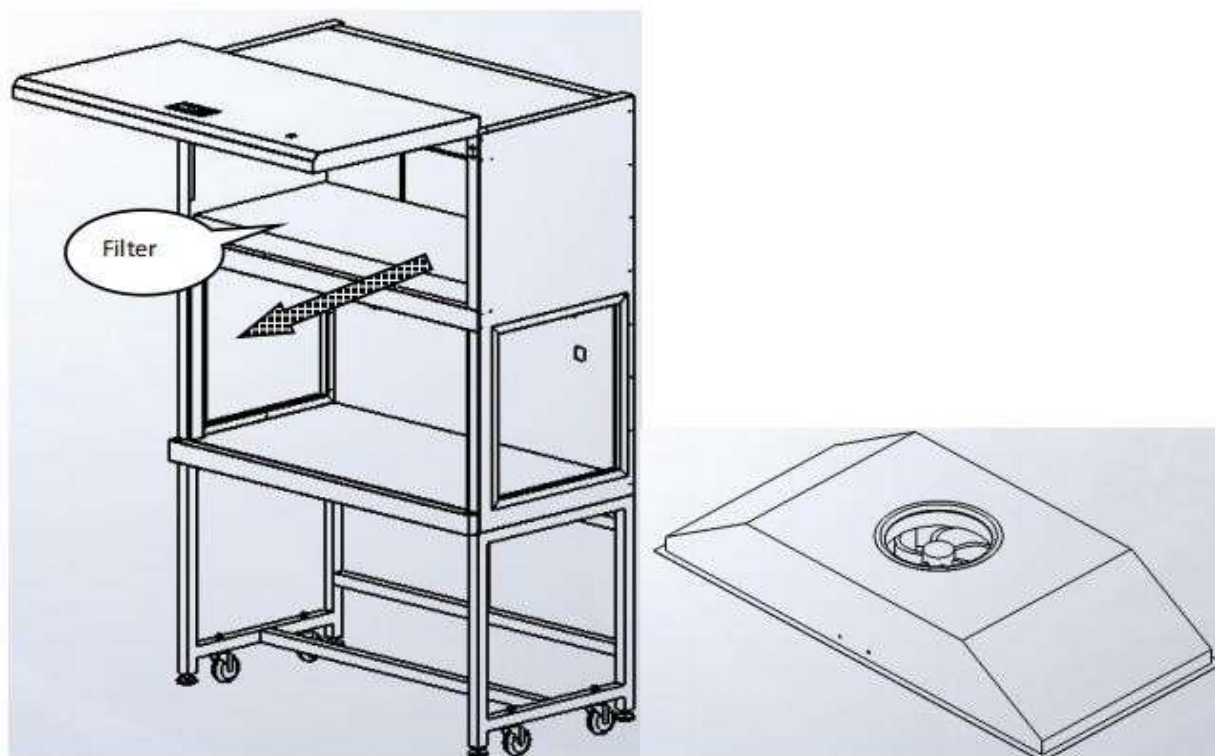

Figure 18
1. Take out the fan and set it aside according to step 1 / 2 / 3 (figure 18);